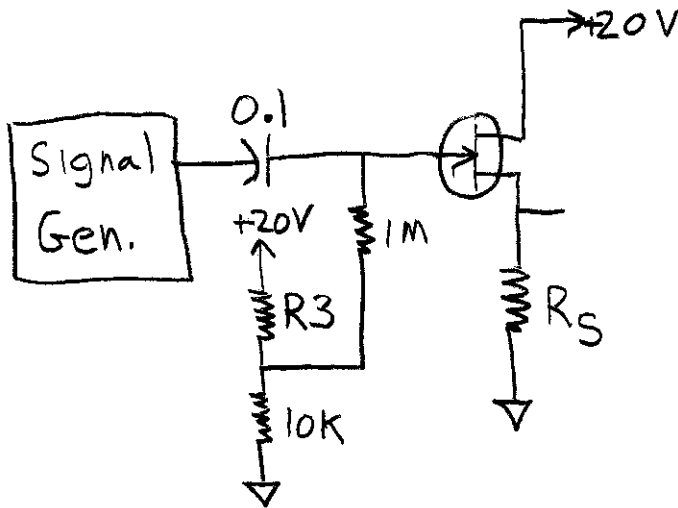

Figure 5: Common drain amplifier
- 5.1 Complete the design of the circuit in Figure 5. Use the same resistor for  $R_S$  as you used for  $R_D$  in the previous part. Calculate the value of  $R_3$  to bias the JFET for a drain current three fourths of  $I_{DSS}$ . Remember that you know  $V_S$  from the product of  $I_D$  and  $R_S$  and that you need a specific  $V_G$  to form the required  $V_{GS}$  for the target drain current. Complete the design of the voltage divider to obtain that  $V_G$ .
- 5.2 Build the circuit in Figure 5 and measure  $V_S$  and  $V_G$ . From these values, compute  $I_D$  and  $V_{GS}$ . Check these against the values calculated from analysis using the model of your JFET.